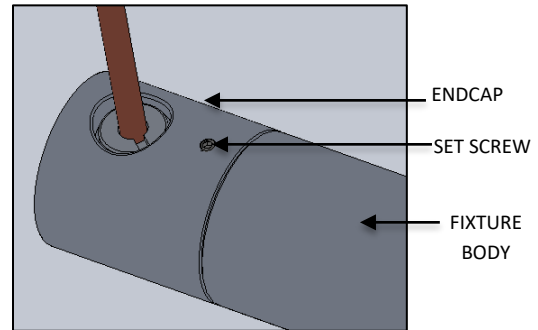

FIG. 24 - FINIAL ASSEMBLY
9. Loosen both set screws (using a 1/16 Allen wrench) on the endcaps as shown in FIG.24 by ½ half turn (do not remove the set screws).